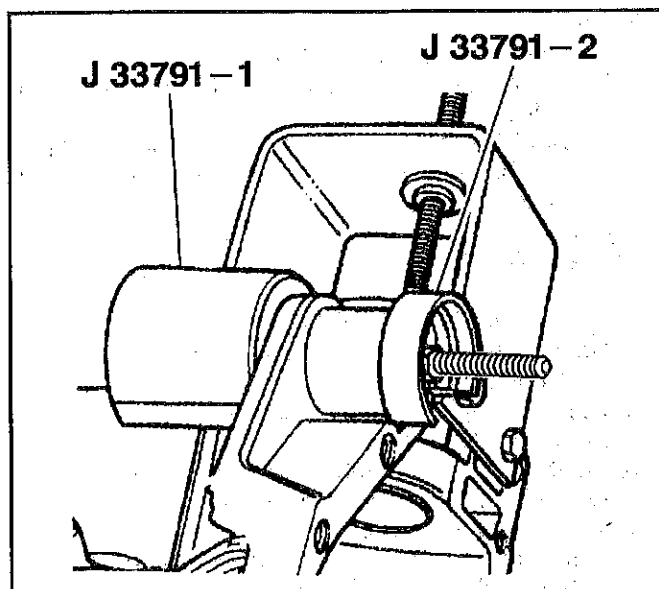

Figure 13—Removing the Case Bushings
2. Bushing with J 33791 (Figures 13 and 14).
1. Bushing with J 33791 (Figures 13 and 14).